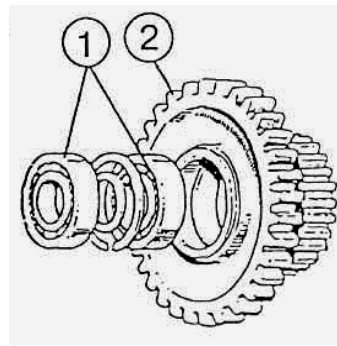

Figure 5.10
11) press bearings (1) out of gear 2 (Figure 5.10);